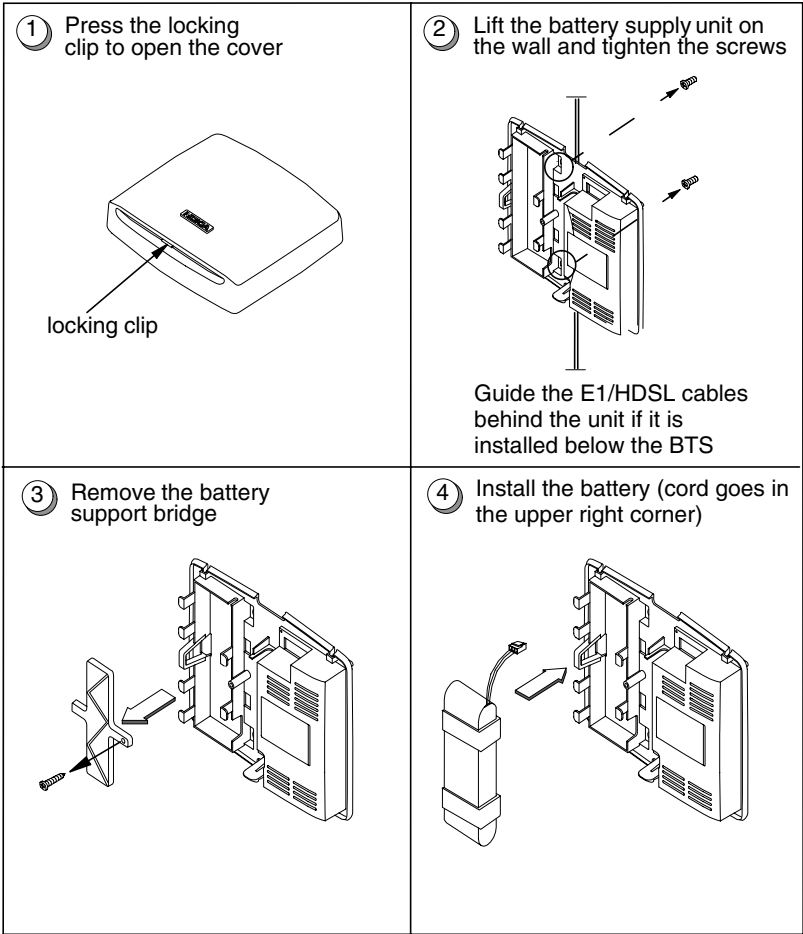

Figure 14. Installing the power supply unit (continues in Figure 15)
1. Open the front cover by pressing the locking clip. See 1 of Figure 14.
2. Lift the unit on the wall. If the power supply unit will be installed below the BTS, guide the HDSL and E1 cables under the power supply unit before tightening the power supply unit fixing screws. See 2 of Figure 14. Tighten the power supply unit fixing screws.
3. Open the screw which is holding the battery support bridge in place. Use a pozidrive driver. Remove the battery support bridge. See 3 of Figure 14.
4. Take the battery and place it in the battery bay so that the battery label remains visible in the lower part of the battery bay. The battery connection cord should be in its slot in the upper right corner of the battery bay. Connect the battery connection cord to the 3-pin connector. See 4 of Figure 14.